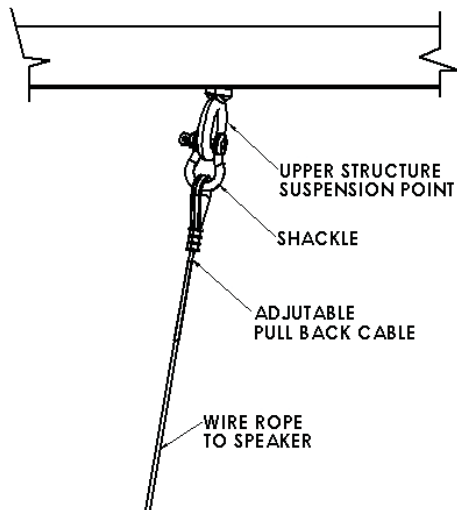

Figure 3
Step 4: Attach the other end of the Adjustable cable to the upper attachment point using the provided shackle (Figure 3).